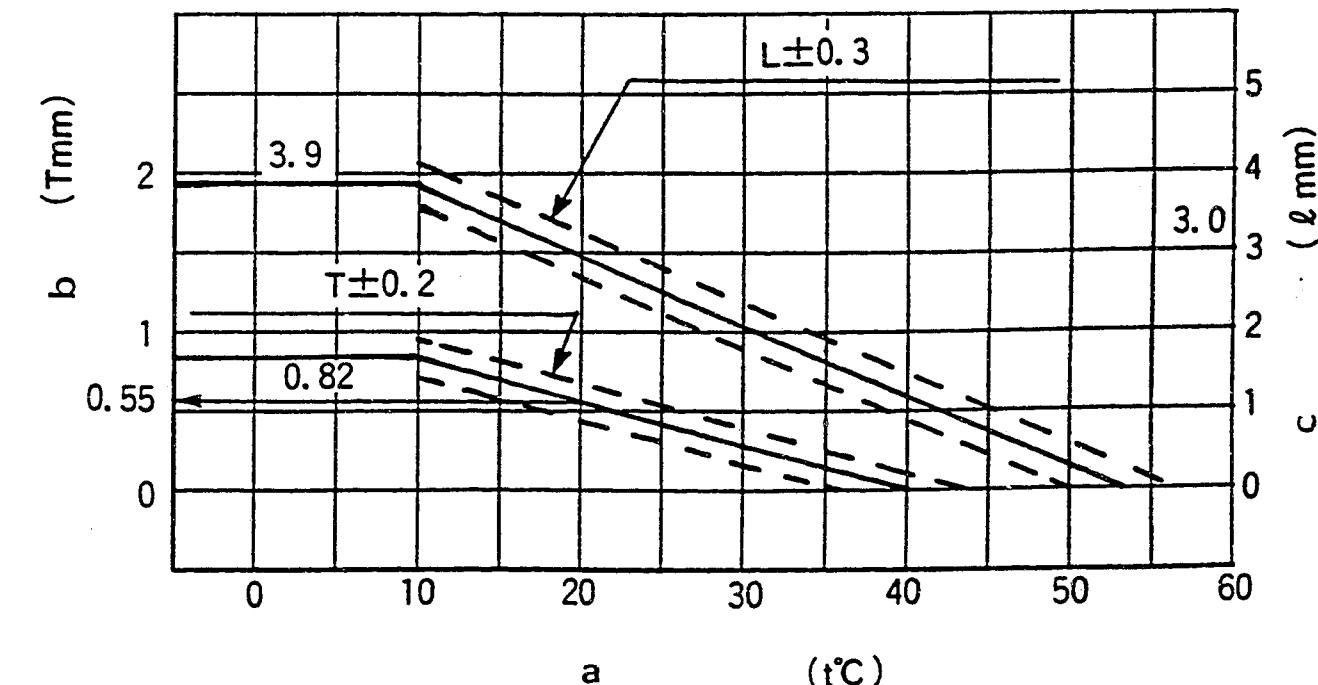

Figure 9
- 1) Calculate the timer stroke from Fig. 9 according to the atmospheric temperature at the time of adjustment.
- 2) Adjust using the timer stroke adjusting screw so that the timer stroke is as calculated in Fig. 9 (diagram).
- 1) Calculate the block gauge dimension  $l \pm 0.05$  mm from (Fig. 9) according to the atmospheric temperature at the time of adjustment.